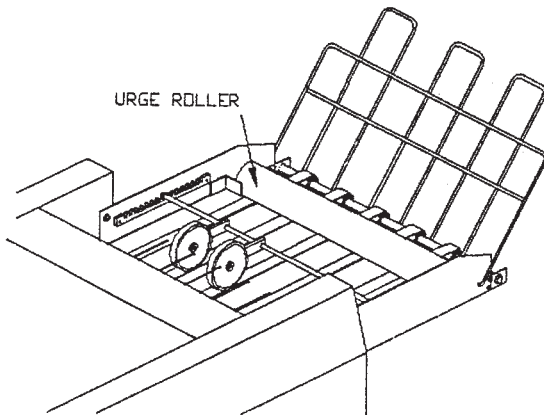

FIG 6
7. Place urge roller on stacker tray so that it rests on the stacker grill. (Fig.6)